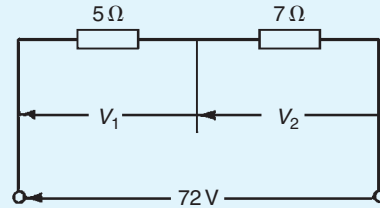

Figure 5.32
8. For the circuit shown in Fig. 5.32, find (a) V_1 , (b) V_2 , without calculating the current flowing. [(a) 30 V (b) 42 V]